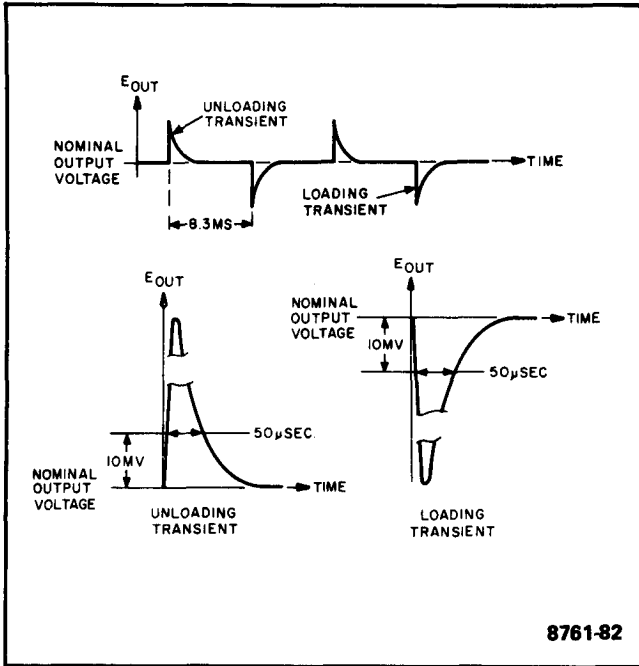

Figure 5-5. Load Transient Recovery Time Waveforms
5-27 Load Transient Recovery Time (Figure 5-5)
- Starting from the major graticule division representing time zero, count to the right 50µsec and vertically 10mV. Recovery should be within these tolerances as illustrated in Figure 5-5.